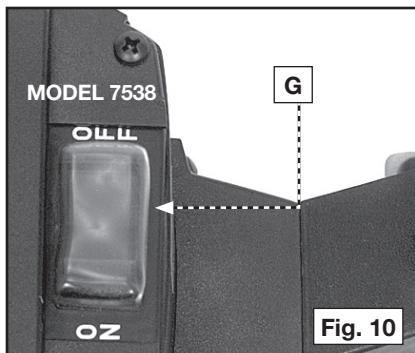

Fig. 10
**MODEL 7538** is equipped with a thermal-type circuit breaker (G) Fig. 10, located in the top of the motor. This circuit breaker will shut the motor "OFF" if the overload is prolonged.